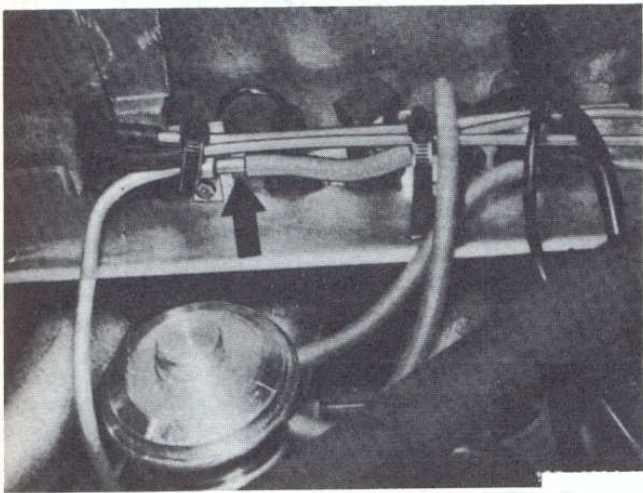

Fig. 3.31 Exhaust back pressure line location on 110 engines fitted with a catalyst – connect the CO meter here (Sec 22)
- 4 Note that where a catalyst is fitted connect the CO meter to the exhaust back pressure line (Fig. 3.31).